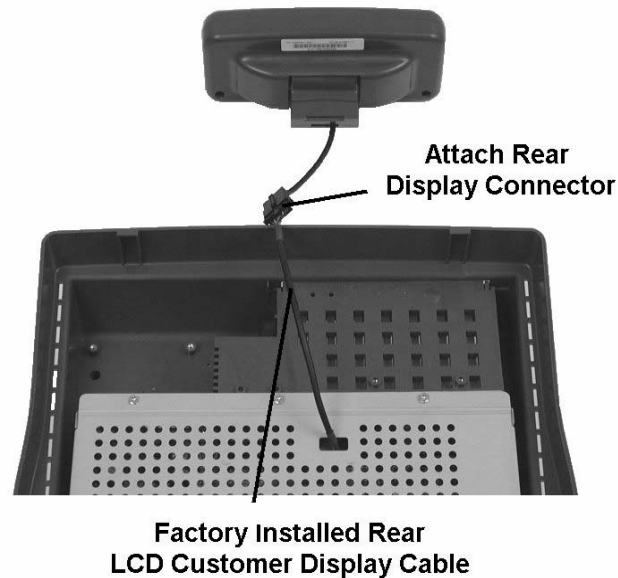

Figure 2-16: Connecting the LCD Customer Display Cable
2. Connect the cable from the LCD Display housing to the cable protruding through the opening in the shield cover. Figure 2-16.
- o To install the optional Rear LCD Customer Display, see Figure 2-16, on page 2-21.